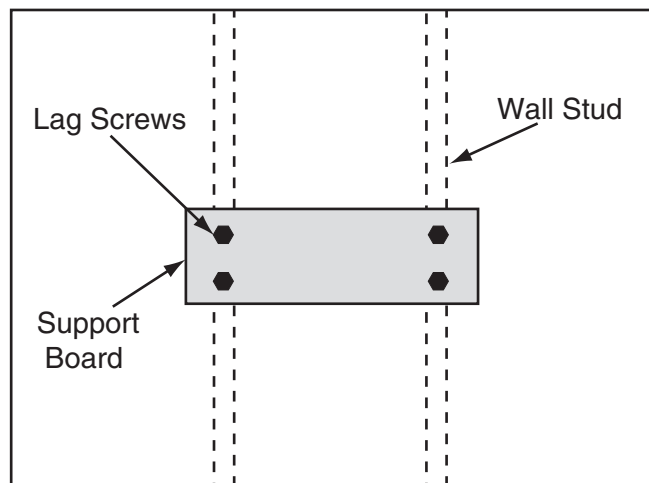

Figure 9. Use of support board to mount T33587.
1. Mount support board to wall studs with lag screws (see **Figure 9**).